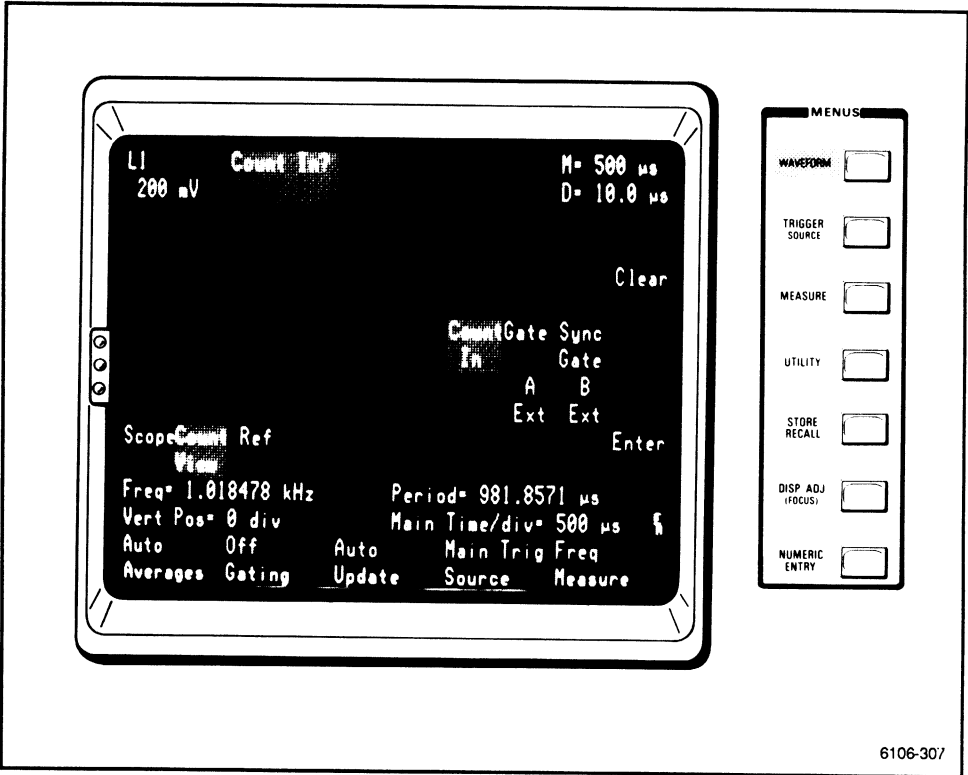

Figure 2-108. Setting the WAVEFORM menu for Counter View.
- 2. Press the WAVEFORM major menu button and touch *Count View*, located toward the left of the screen. To display the counter input signal, touch the *Count In* menu entry. (See Fig. 2-108.)